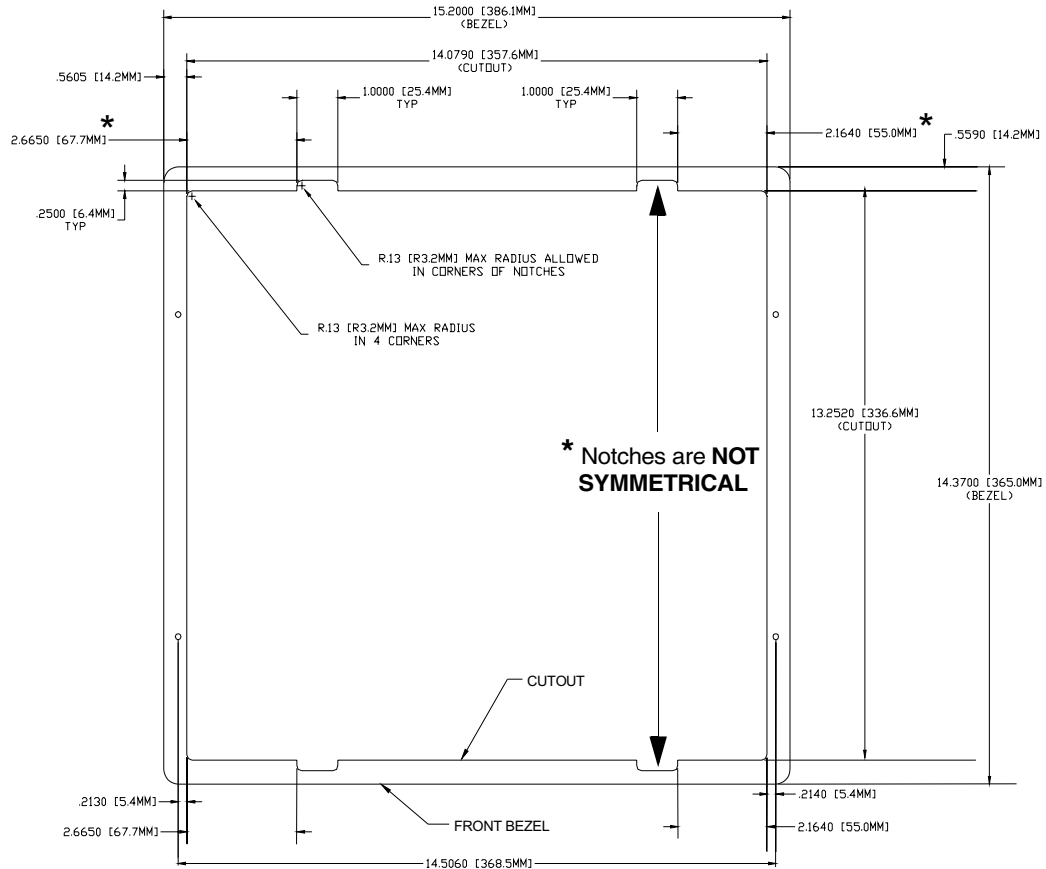

FIG. 41 NXD-1500VG 15-inch Wall Mount panel dimensions using expansion clips
2. Cut out the surface for the **12-inch Wall Mount** using the dimensions shown in FIG. 40 and for the **15-inch Wall Mount** using the dimensions shown in FIG. 41. Be sure to cut out the four notches along the top and bottom areas to accommodate the four drywall expansion clips (provided).
- 8.** Insert the four sets of drywall screws and expansion clips into the four oval notch locations along the top/bottom edges of the main unit (FIG. 41).
- 9.** Carefully insert the main unit (with expansion clips) into the cutout until the Mounting Tabs on the NXD unit lie flush against the wall (FIG. 41).